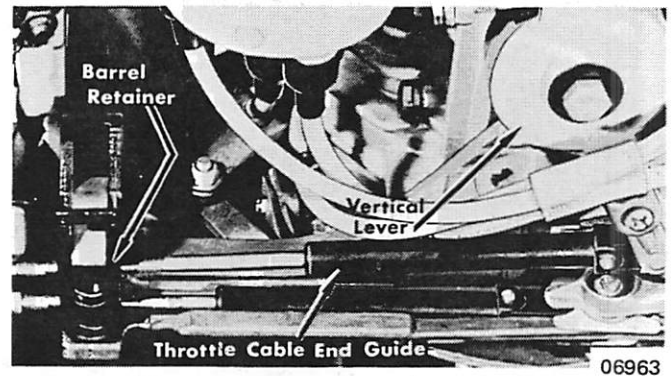

Figure 6. Merc 650 (3-Cyl.) Throttle Cable
1. Place brass barrel in nylon socket. (Figure 6)
2. Position vertical lever so that distributor is held lightly against idle stop screw. Attach cable end guide to vertical lever without disturbing setting. (Figure 6) If necessary, readjust brass barrel for correct position and to compensate for cable backlash.
3. Secure brass barrels in nylon socket by moving barrel retainer to lock position and moving clamp lever over cable end guide. (Figure 6)